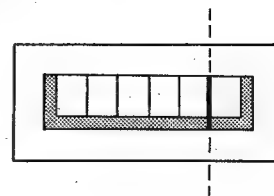

Fig. 6-6. Tracking meter set
- Adjust R390/V1 Board so that the tracking meter indicates the fifth division from the left. See Fig. 6-6.